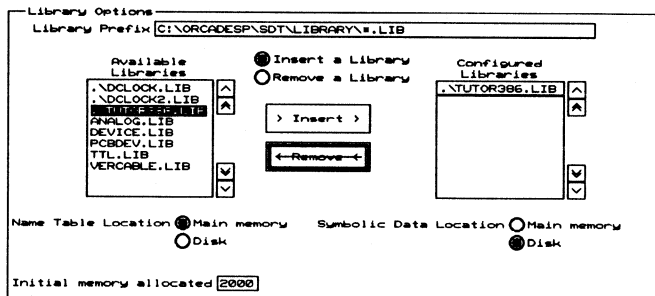

Figure 3-6. Partial view of the *Configure Schematic Design Tools* screen, *Library Options* area.
1. Select **Draft**, then select **Configure Schematic Tools** from the menu. The **Configure Schematic Design Tools** screen displays (figure 3-6).